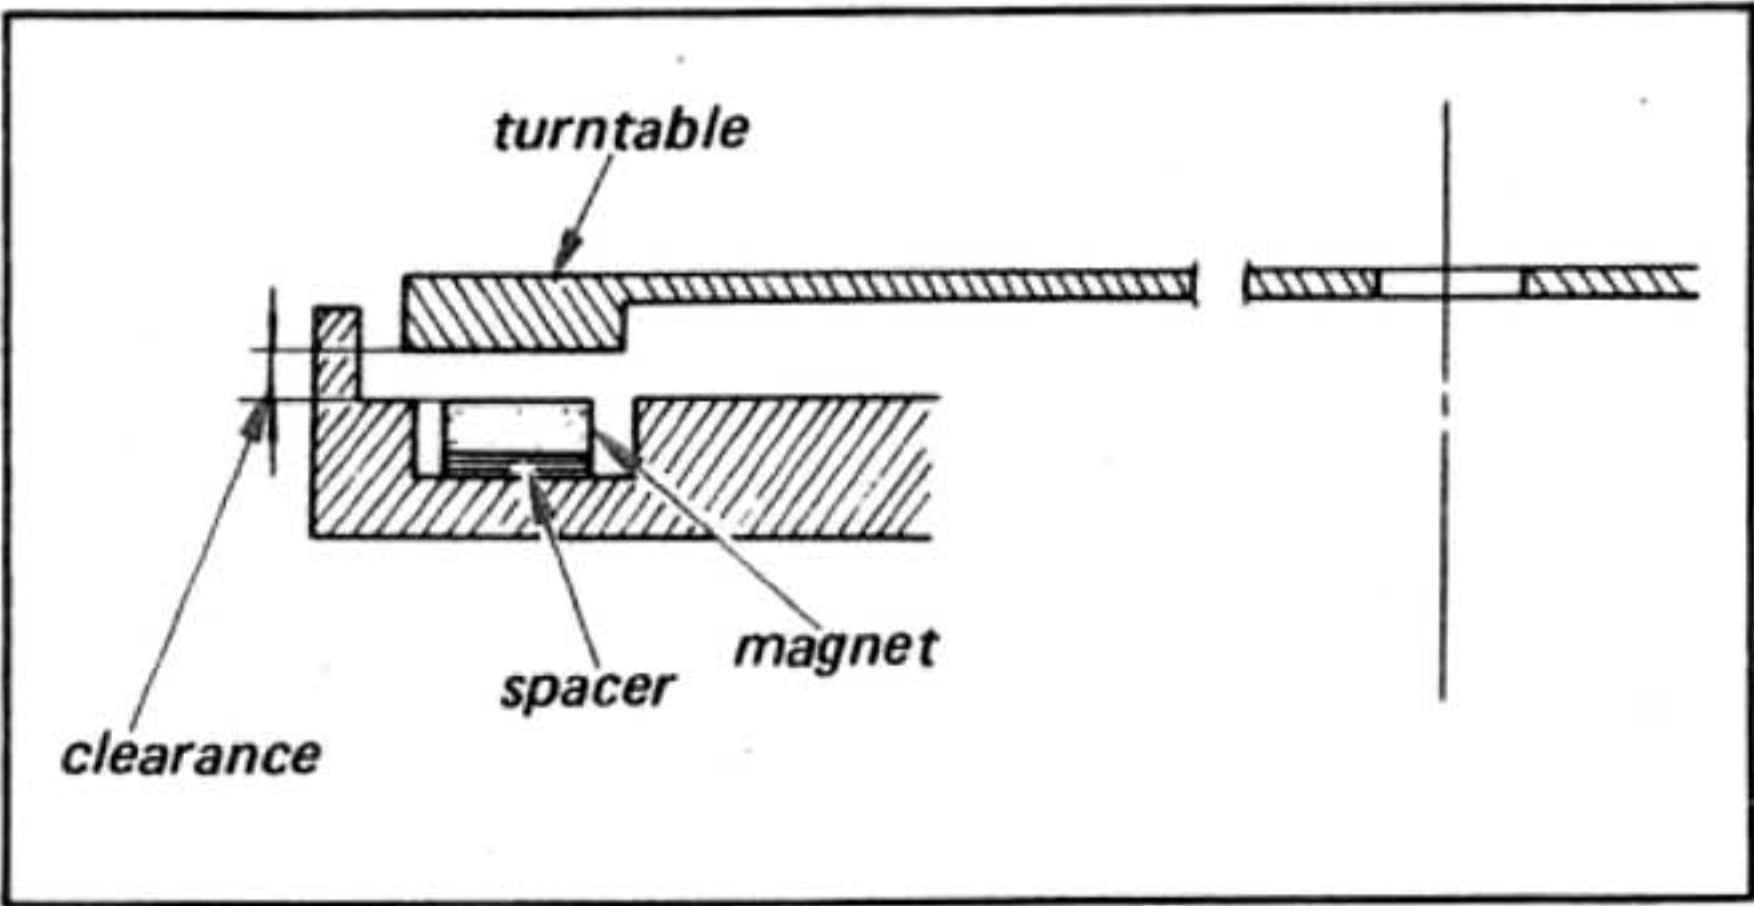

Fig. 2-7. Electromagnetic brake adjustment
- 1. First of all, confirm that the turntable does not touch with the magnet on the turntable base (See Fig. 2-7). If it does, adjust the magnet height by replacing spacer. Three kind of spacer are available as specified in table below. To remove the magnet and spacer, apply a few drops of cement solvent to them.